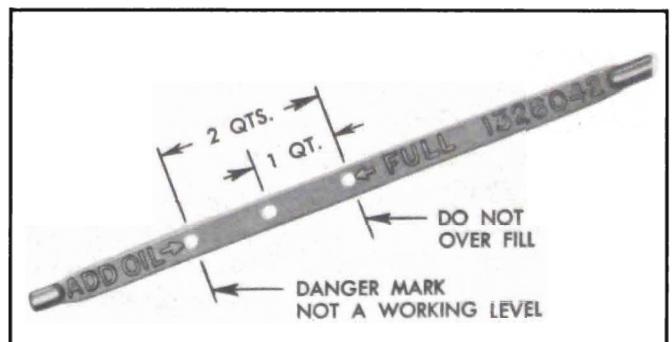

Figure 1-2—Markings on Engine Oil Gauge Rod
1. *Engine.* Check engine oil level after allowing time for oil to drain down (5 min.). The oil level should be maintained at all times within 1 quart of the "Full" arrow, or not lower than the middle hole in gauge rod. The lower or "Add Oil" arrow on gauge rod is a *danger mark and not a working level*. The space between arrows on gauge rod represents 2 quarts. See figure 1-2.